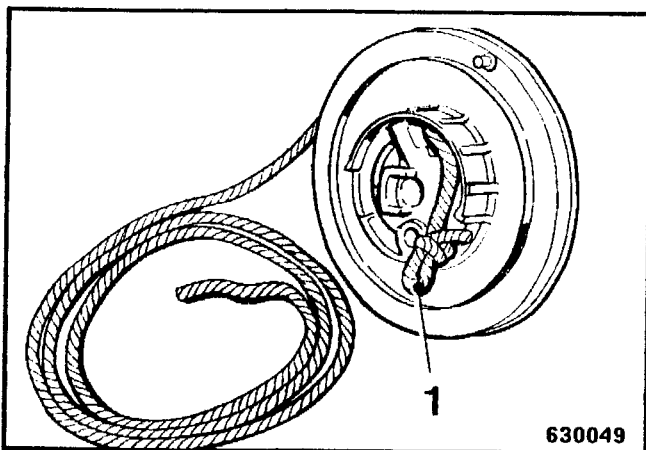

Fig. 4
- Insert the starter rope (length 1600 to 1800 mm) into the rope disc, make a knot and wind it up. Push the end of the rope 1 (Fig. 4) into the opening of the rope disc.